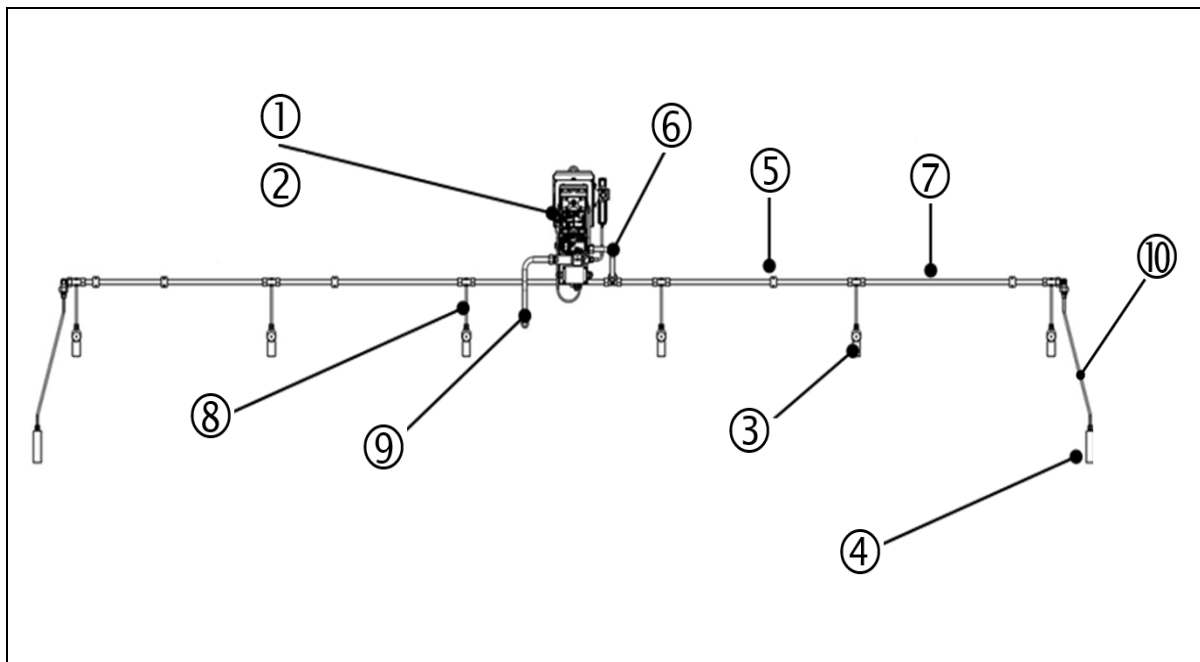

Fig.: 6 : Component overview, standard drainage, VISATRON® VN2020 EX-H2
The oil mist detector uses the *Venturi principle* to draw the oil mist atmosphere out of the crankcase. The negative pressure generated by the Venturi air jet pump (6) at the device is used to draw in the oil mist-containing crankcase atmosphere from the crankcase via the engine wall connections (Fig. 6, Pos.3). It then passes through the header pipes (Fig. 6, Pos.7) and the intake line (Fig. 6, Pos.6) into the connecting box and from there into the optical measuring track in the measuring head, where the oil mist concentration is continuously measured and analysed. From there, the crankcase atmosphere returns to the crankcase via the exhaust gas recirculation line (Fig. 6, Pos.9).